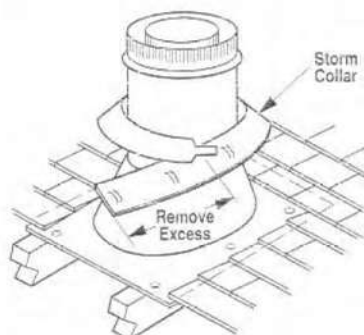

Figure 19
J. Install the storm collar, supplied with the flashing, over the vent/flashing joint. Wrap the storm collar around the vent noting which locking groove closely aligns with the tab (Figure 19). Pencil mark excess material, unwrap and trim excess with shears. Reposition collar, insert tab through both slots, pull tab so that collar is tight around vent. Slide collar down until it meets top of the flashing. Bend tab back over slot. Apply noncombustible caulking or mastic around circumference of the joint and the tab slot area to provide a water tight seal.